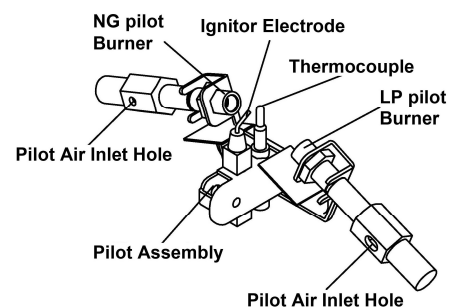

Figure 18 – Pilot
7. With control knob pressed in, push down button. This will light pilot. The pilot is attached to the front burner. The pilot can be seen through the glass panel. If needed, keep holding in ignitor button until pilot lights. (See Figure 18).